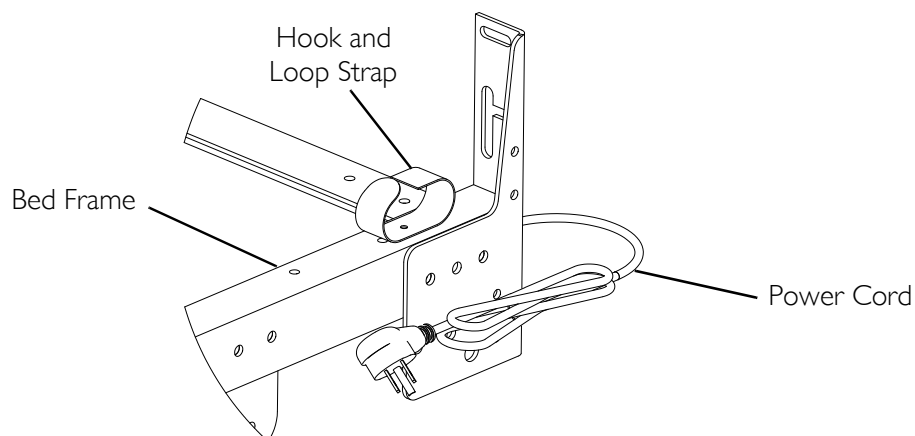
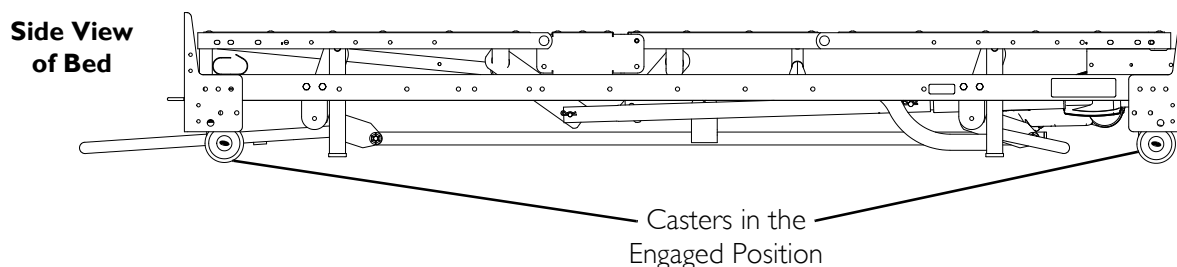

FIGURE 2.3 Storage
FIGURE 3.3 Rolling the Bed
NOTE: For this procedure, refer to FIGURE 2.3.
NOTE: For this procedure, refer to FIGURE 2.3 on page 14 and FIGURE 3.3.
1. To engage the casters, lower the bed to the low end stop position (FIGURE 3.3).
2. Bundle the power cord. Refer to FIGURE 2.3 on page 14.